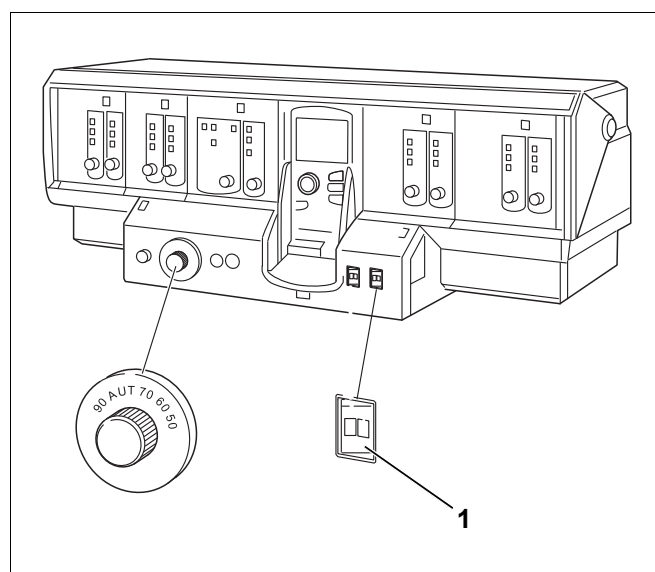
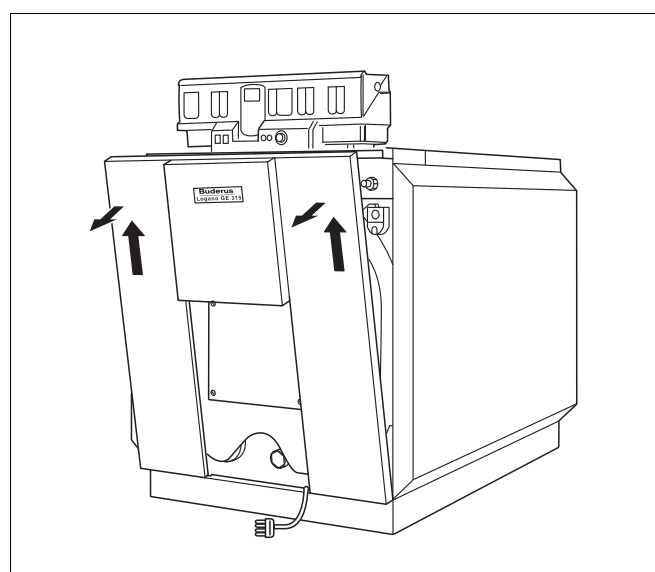

Fig. 53 Example: Logamatic 4000 Series control unit
Fig. 54 Remove the front wall
You will find an illustration of the various types of brushes offered by **Buderus** (optional accessory) in Fig. 53.
- Clean the hot gas flues (Fig. 54, [1] & [3]) with cleaning brushes 1 and 2 (Fig. 53) from the front to the back.
- Clean the remaining combustion chamber (Fig. 54, [2]) with cleaning brush 2.
- Clean the lower hot gas flues from the front with cleaning brush 2 (Fig. 54, [1]).